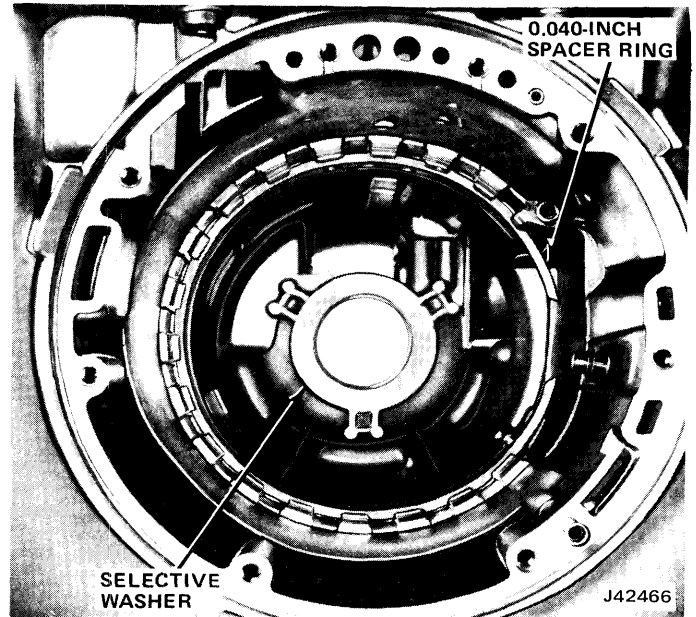

Fig. 7-37 Selective Washer and Spacer Ring
(3) Remove metal output shaft-to-case thrust washer from rear of output shaft or from case.
(4) Place gear unit assembly, with output shaft facing downward, in hole in work bench and Holding Fixture J-21364.
(5) Remove rear unit selective washer from transmission case (fig. 7-37).
(6) Remove support-to-case spacer ring (fig. 7-37).